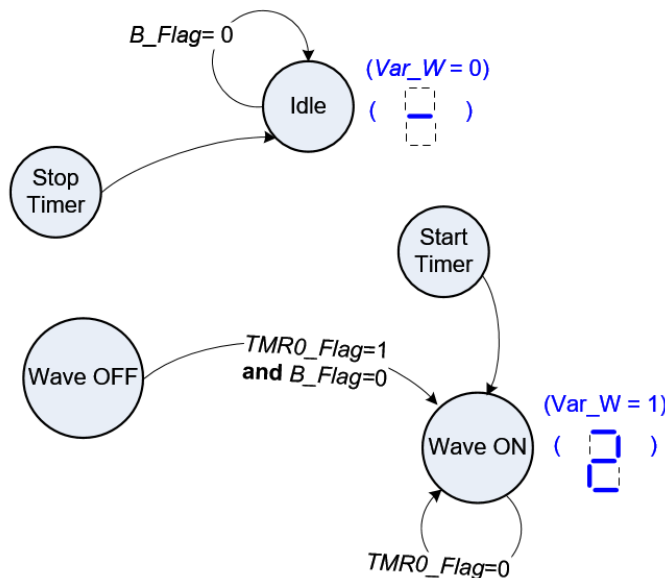

Fig. 5
Fig. 3 shows the symbol of an application based on the PIC18F4520 (Fig. 4) running with an 8 MHz crystal quartz oscillator. The idea is to control the rotation speed of a direct current motor generating a 25 Hz waveform that has 2 possible selectable duty cycles: DC1 = 20% and DC2 = 80%. The 7-segment display will show the sign “-” when idle, and the numbers 1 or 2 depending on the DC selected by the switch. The button **B** starts and stops de waveform generation. Fig. 5 shows an idea of the state diagram.
- Complete the state diagram represented in Fig. 5 and deduce the truth tables for the main functions of the C code: `state_logic()` and `output_logic()`.